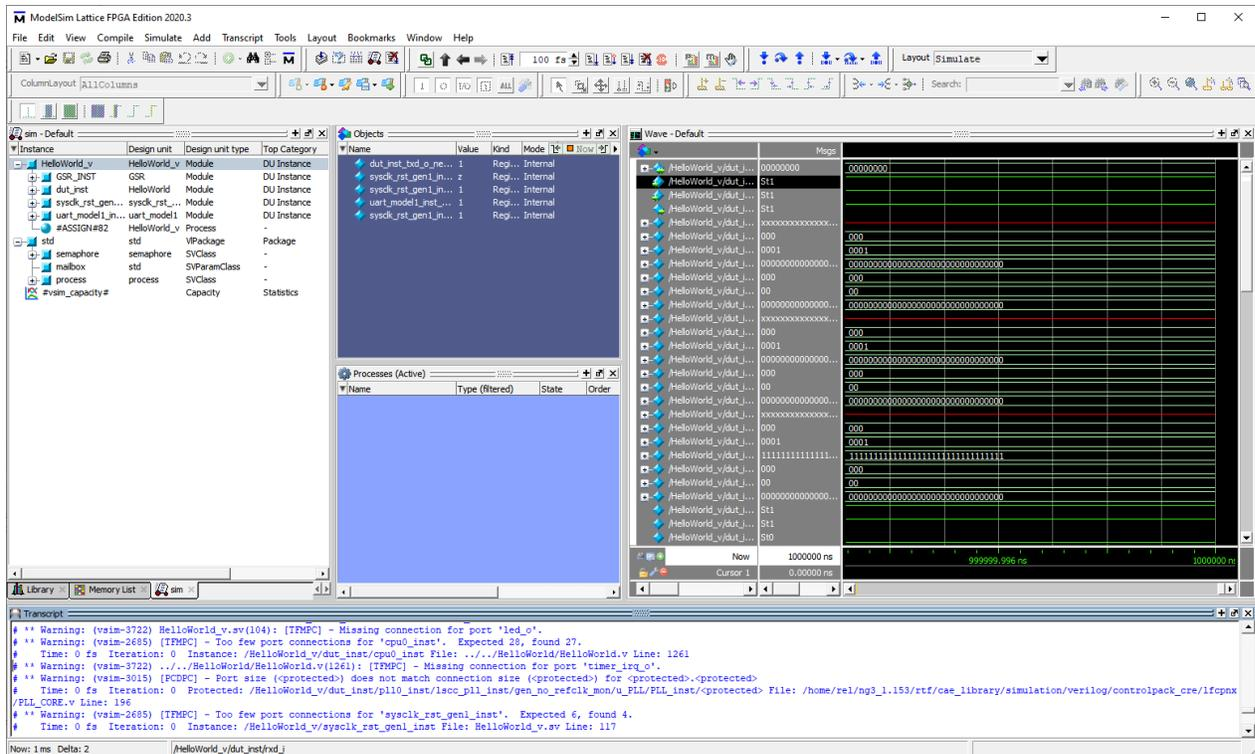

Figure 2.76. Simulation GUI
2. The default simulation tool, ModelSim, OEM version, opens (Figure 2.76).